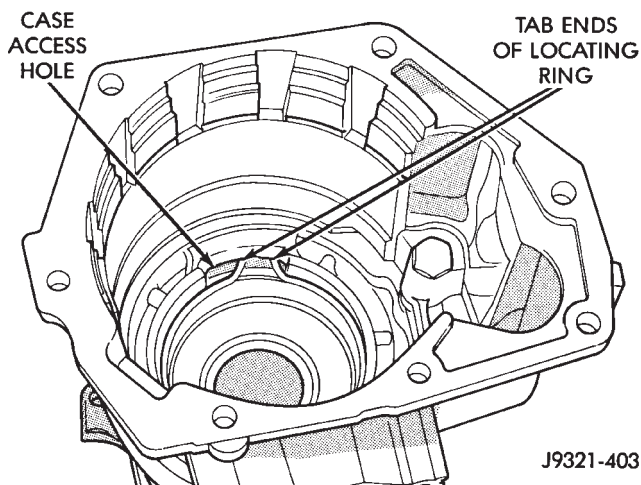

Fig. 239 Correct Rear Bearing Locating Ring Position
(5) Install new seal in gear case. Use Handle C-4171 and Installer C-3995-A to seat seal in case.
(6) Verify that tab ends of rear bearing locating ring extend into access hole in gear case (Fig. 239).